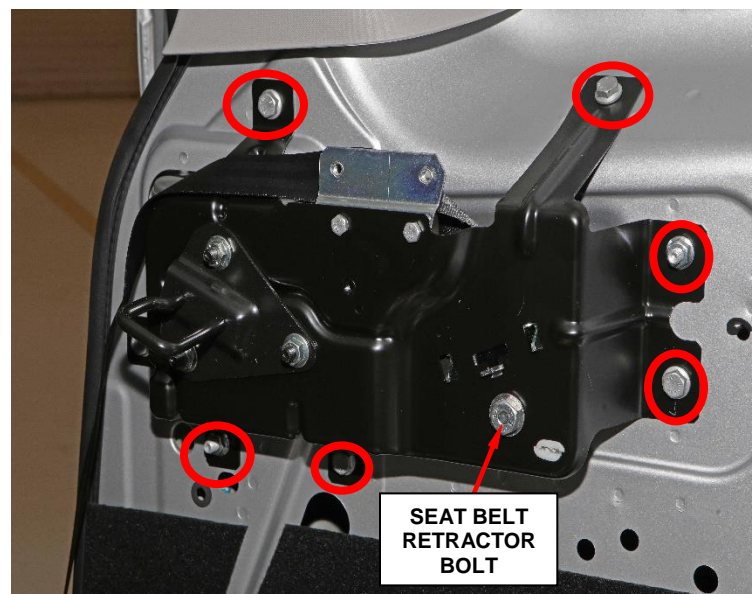

Figure 18 - Bracket
9. Remove the screw that secures the retractor to the quarter panel bracket (Figure 18).
10. Partially loosen the four screws and two nuts that secure the rear outboard retractor bracket to the quarter inner panel (Figure 18).